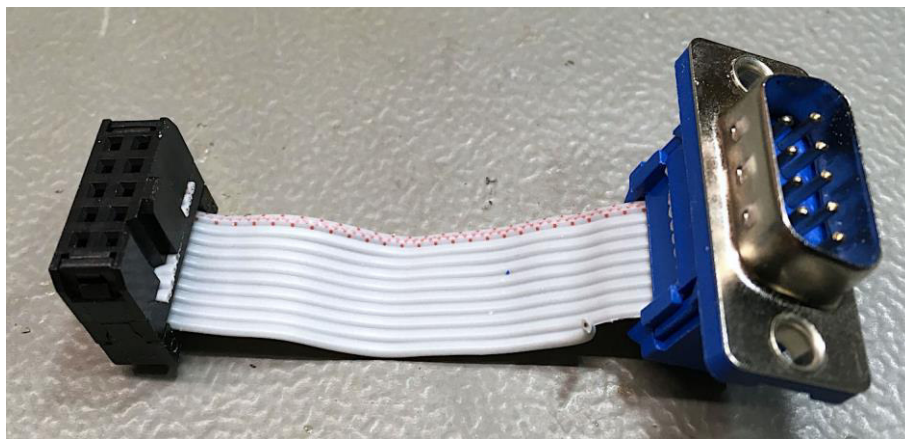
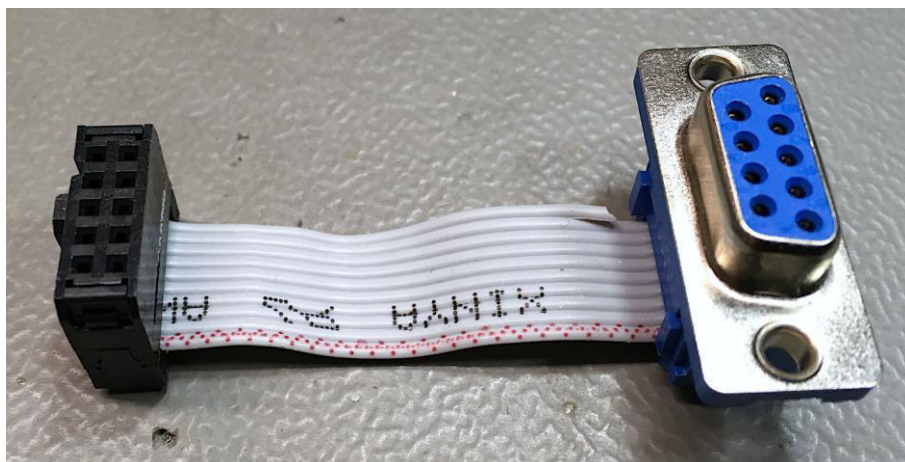

Figure 13: Joystick Input cable: Male D-Sub, 8cm ribbon cable
Figure 14: The output cables: female D-Sub, 8cm ribbon cable
Please note the different orientation of the coding notch in Figure 13 and Figure 14. Also, the marked wires (1) of the ribbon cables are on opposite sides. The cable shown in Figure 14 is required twice.